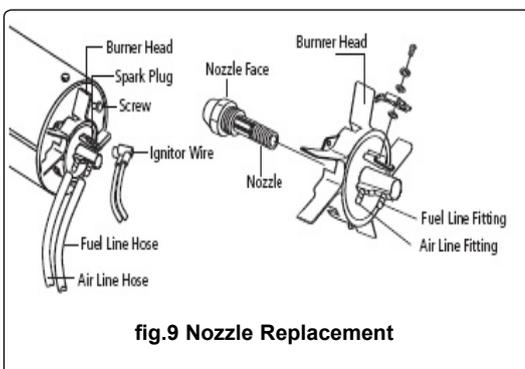

fig.9 Nozzle Replacement
- 7.6.3. Remove the burner head and remove the nozzle (fig.9).